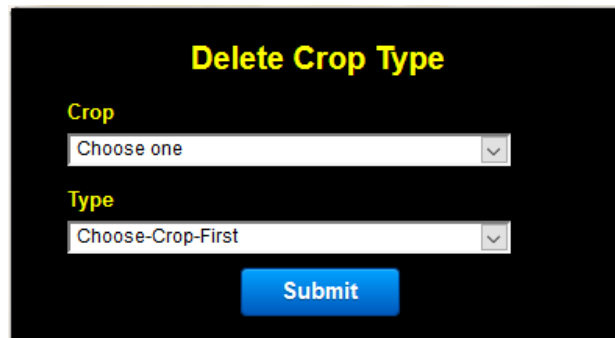

Fig 26
1. This form allows you to delete a Crop Type from your account.(See fig. 26)